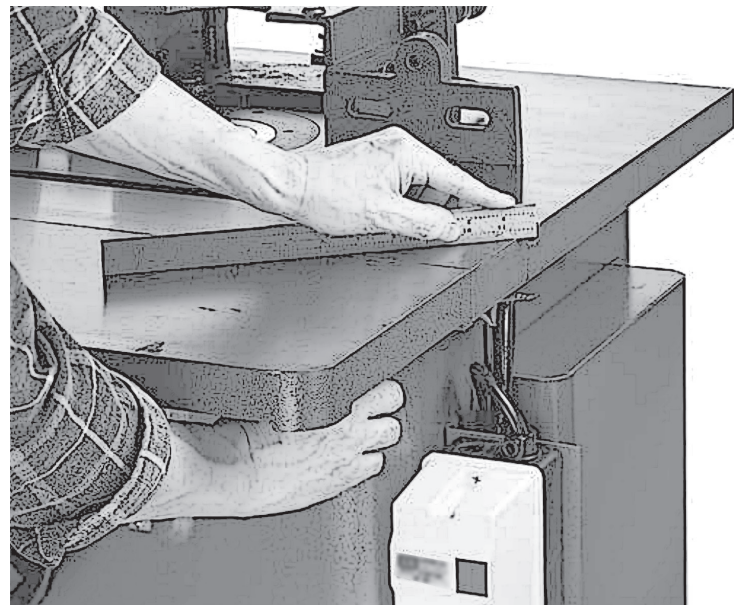

Fig. 11 Adjusting to ensure flatness.
7. Adjust the wing up or down at the last bolt (Figure 11). If necessary, use a clamp and some wood blocks to make the two surfaces flush. Tighten the final bolt when the two surfaces are flush.